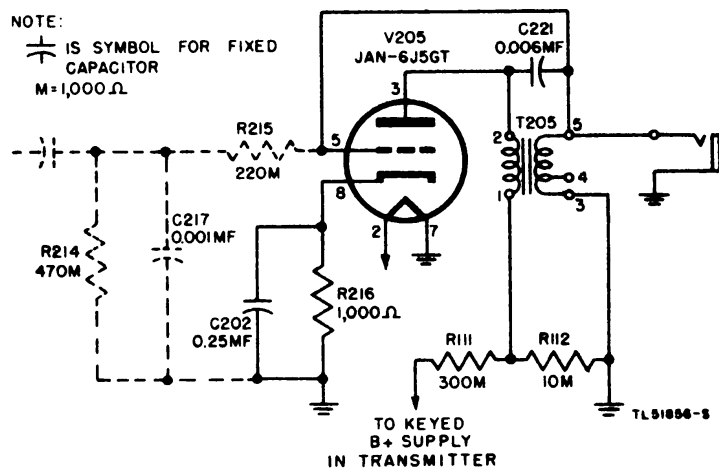

Figure 29. Audio oscillator V205, simplified diagram.
64. AUDIO OSCILLATOR (fig. 29).
a. In order to monitor the keying of the transmitter, the audio amplifier is converted into an audio oscillator when the STANDBY, RECEIVE, TRANSMIT switch is in the TRANSMIT position. The oscillator circuit is shown in figure 29.